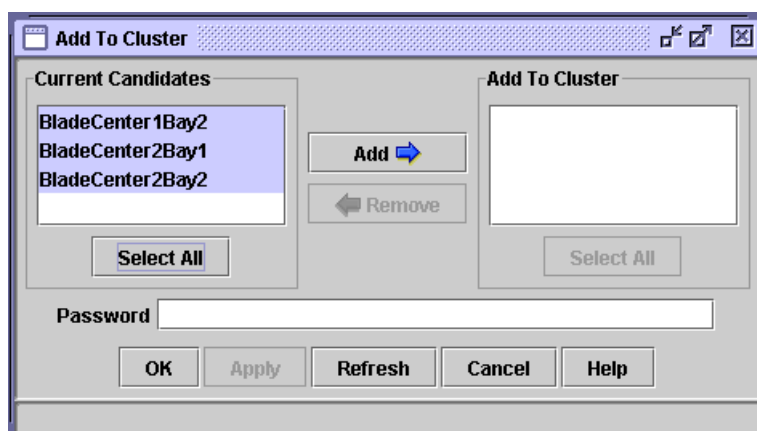

Figure 5-31 Add To Cluster window
2. In the Current Candidates list (Figure 5-31), select the switches that you want to add to the cluster. To select all the switches in the list, click **Select All**.